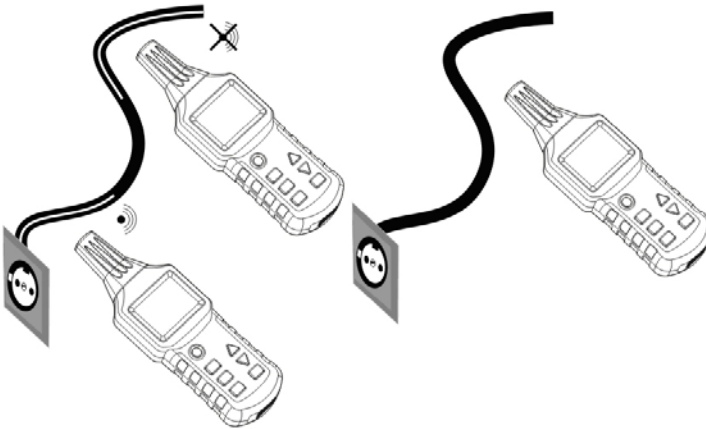

Fig.25
- The measurement must be made as shown in Fig. 25;